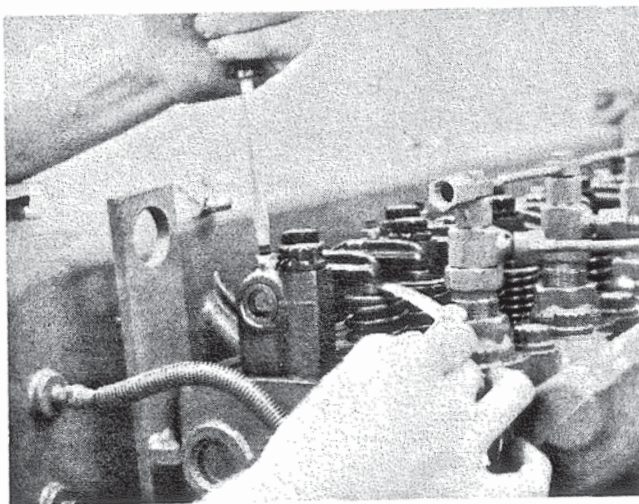

Figure 11. Checking Valve Clearance.
A. Measure valve clearance using feeler gauge. Figure 11. Adjust by loosening lock nut and turning adjusting screw. Recheck clearance after tightening lock nut.